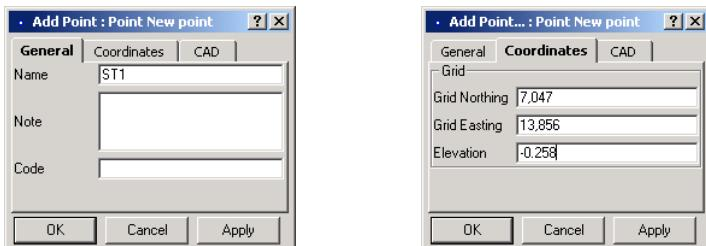

Figure E-3. Add Point – Enter Name and Coordinates
2. Enter the point’s *Name* and *Coordinates*, and click **Ok** (Figure E-3).